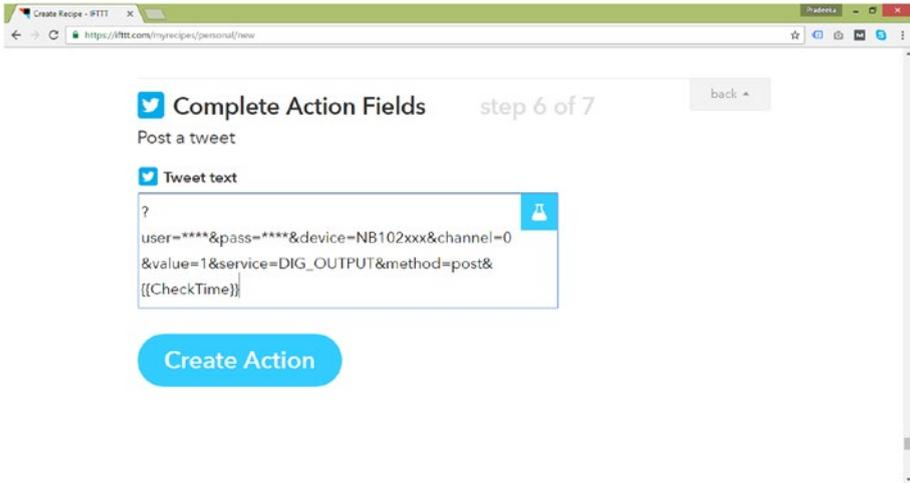

Figure 8-21. The Complete Action Fields page
14. In the **Complete Action Fields** page, as shown in Figure 8-21, type the following command.
15. Click the **Create Action** button (Figure 8-21). The **Create and Connect** page will appear with the *recipe title*. Click the **Create a Recipe** button to create the recipe.